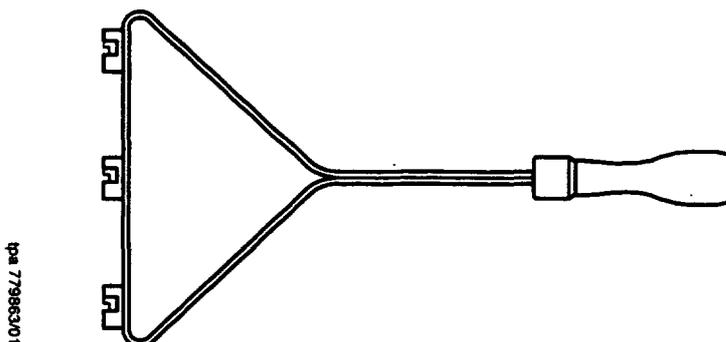

Figure 22. KS-22616, L1 Block Removal Tool
3.03 The KS-22616, L1 removal tool (Comcode 402757173, Figure 22) is used for removing the 78-type and 112-type, 100-pair and 128-pair connecting blocks on the *COSMIC* mini distributing frame.